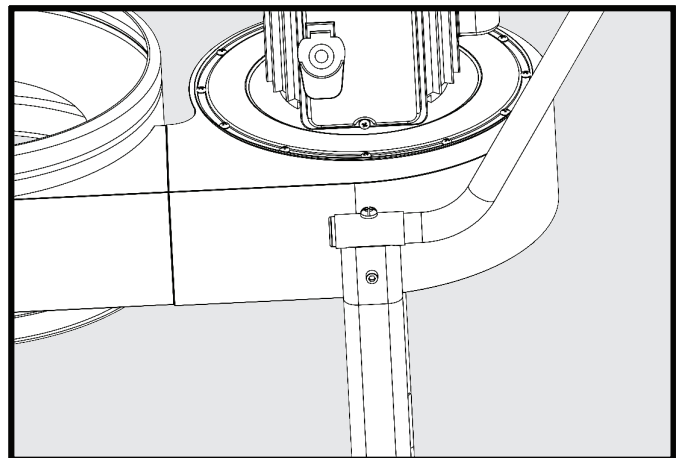

FIGURE 12
- Be sure cap is seated (Fig 12).